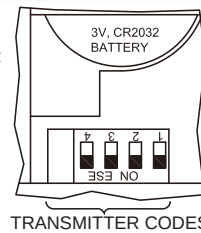

Figure 13
- ☐ 1. To set the transmitter code, remove battery cover by pressing firmly below arrow and sliding cover off. Slide code switches to your choice of up or down position. Factory setting is all up. Do not use this position. With a small screwdriver or ball point pen slide firmly up or down. Replace battery cover on the transmitter (Figure 13).